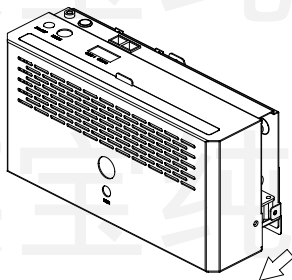

Figure 4.11 Schematic diagram of photocatalyst component maintenance step 3
- 3) Move the housing outward to expose the photocatalyst assembly, as shown in Figure 4.11;